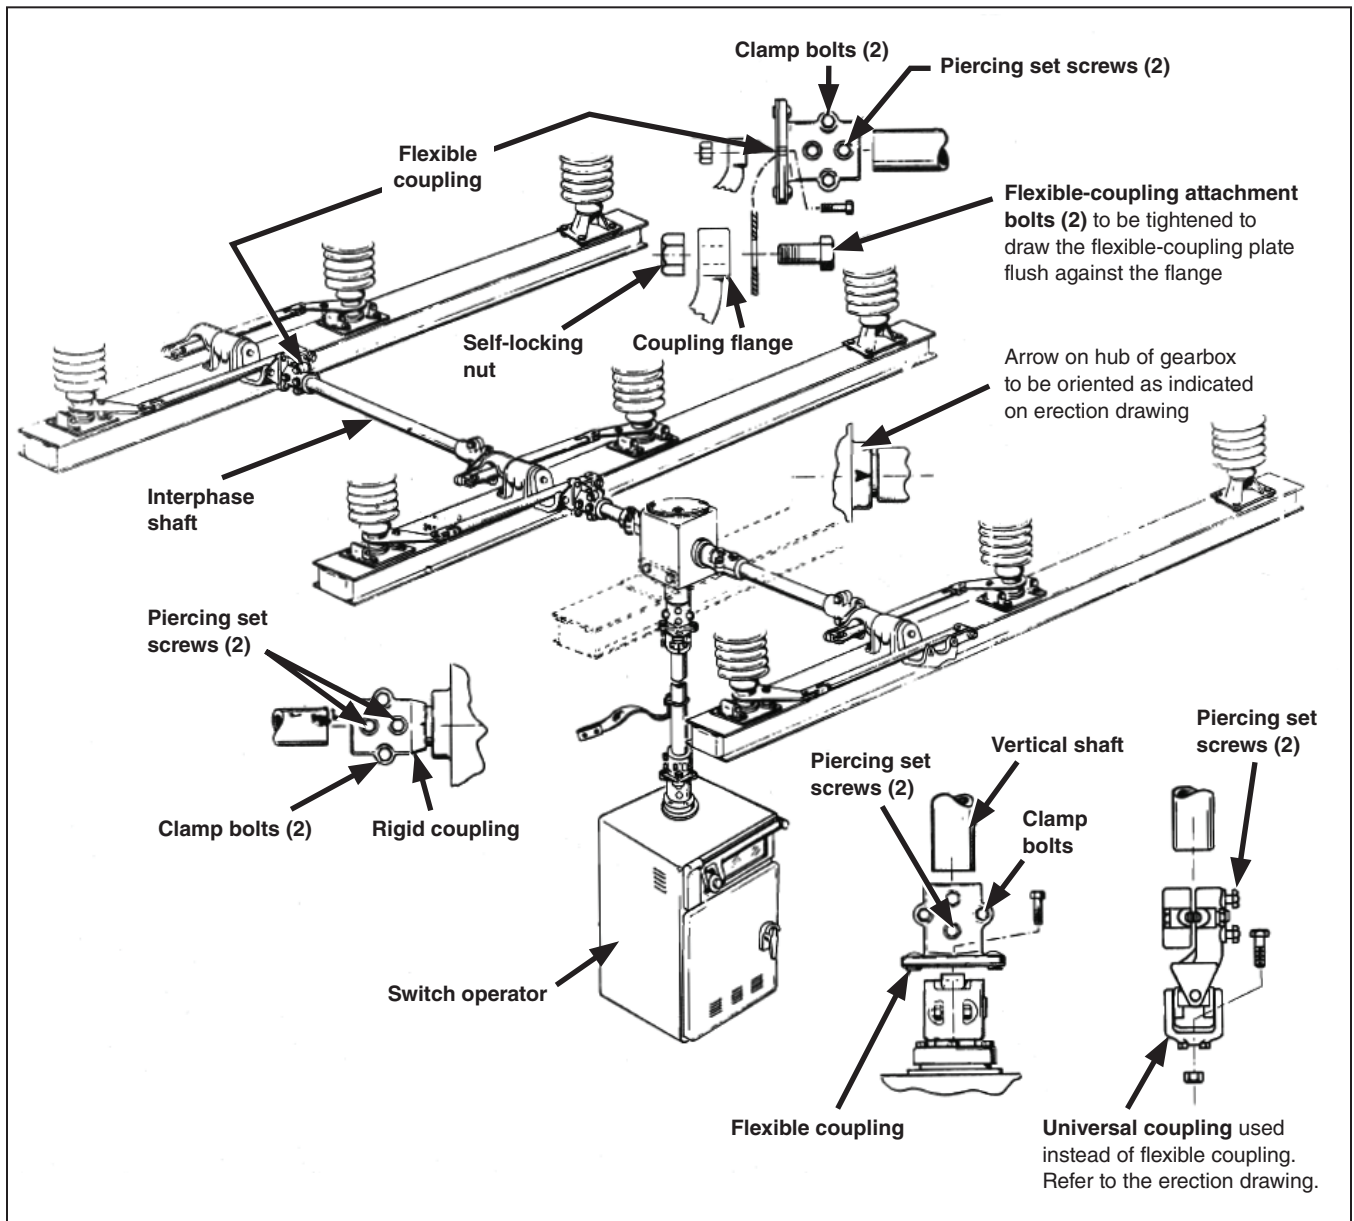

Figure 20. Power train detail.
STEP 2. Attach the coupling assemblies for the interphase and connecting shafts to the switch pole-units and gearbox as shown on the erection drawing. See Figure 20. Thread the flexible-coupling attachment bolts through the flexible-coupling plate and through the coupling flange. Tighten the bolts to draw the flexible plate flush against the flange; this will deform the threads in the flexible plate, resulting in a binding, nonslip connection. Install and tighten the self-locking nuts. Do not use lockwashers with the flexible-coupling attachment bolts.
STEP 2. At the gearbox end of the vertical shaft, make sure the cutting tips of the piercing set screws do not protrude through the body of the universal or flexible coupling. See Figure 20 on page 23. Install the vertical shaft. Tighten the clamp bolts equally so the clamp pulls down evenly. Then, tighten the associated piercing set screws, piercing the shaft and continue turning until a firm resistance is felt.